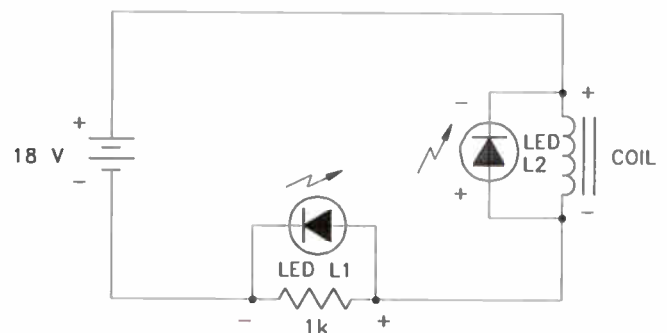
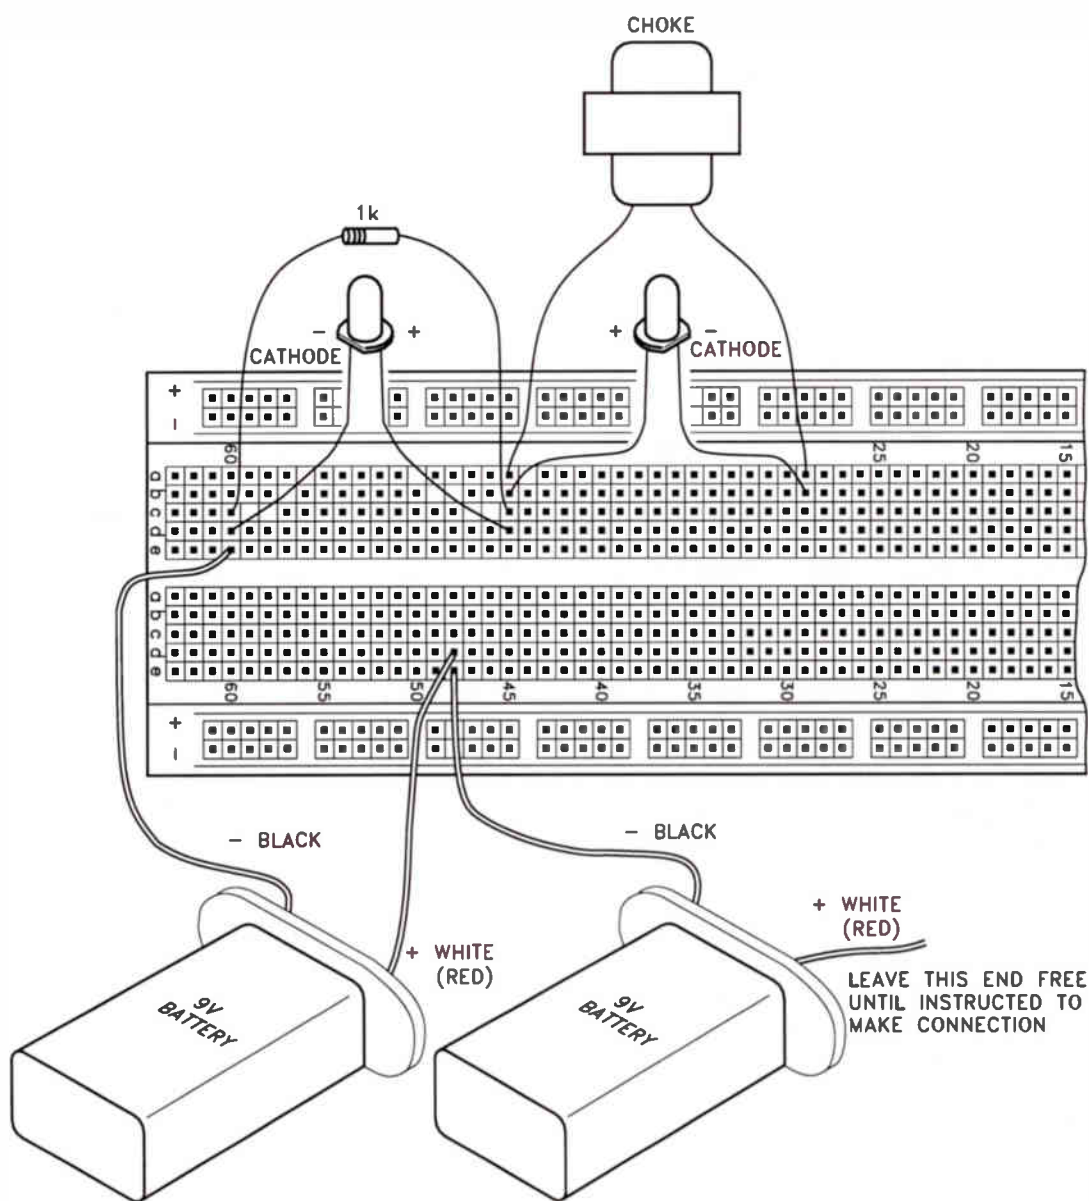

Figure 11-1. Circuit connection to demonstrate counter electromotive force (CEMF).
Figure 11-2. One way to connect components for coil demonstration.
You will want to begin this experiment by constructing the circuit shown in Figure 11-1 without the LEDs. To get the 18 V supply, you'll have to connect two 9-volt batteries in series aiding. Use the diagram in Figure 11-2 if you need help. Be sure to move the red lead of your DMM back to the V socket.
Step 2. Disconnect the battery red lead from the coil. Connect the LEDs across the 1k resistor and the coil with the polarity, as shown in the schematic. An LED lights when a negative voltage is applied to the cathode and a positive voltage is applied to the anode. Ensure that the components are installed into the circuit properly, review Figure 11-1 carefully.